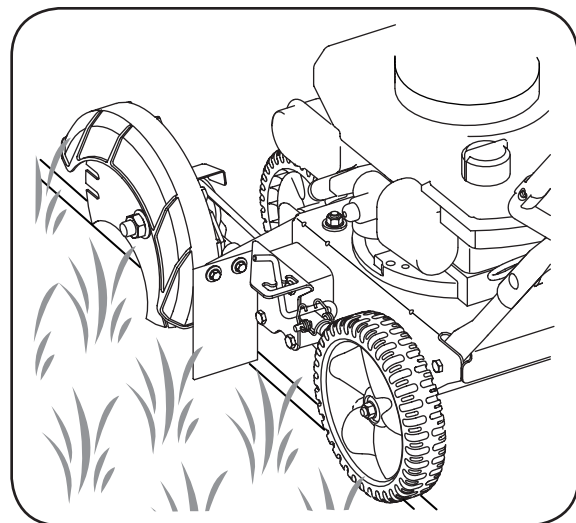

Figure 5-1
1. Move unit to area to be edged, making sure that the left rear wheel is on a hard surface and the blade is over the area to be cut. See Fig. 5-1.